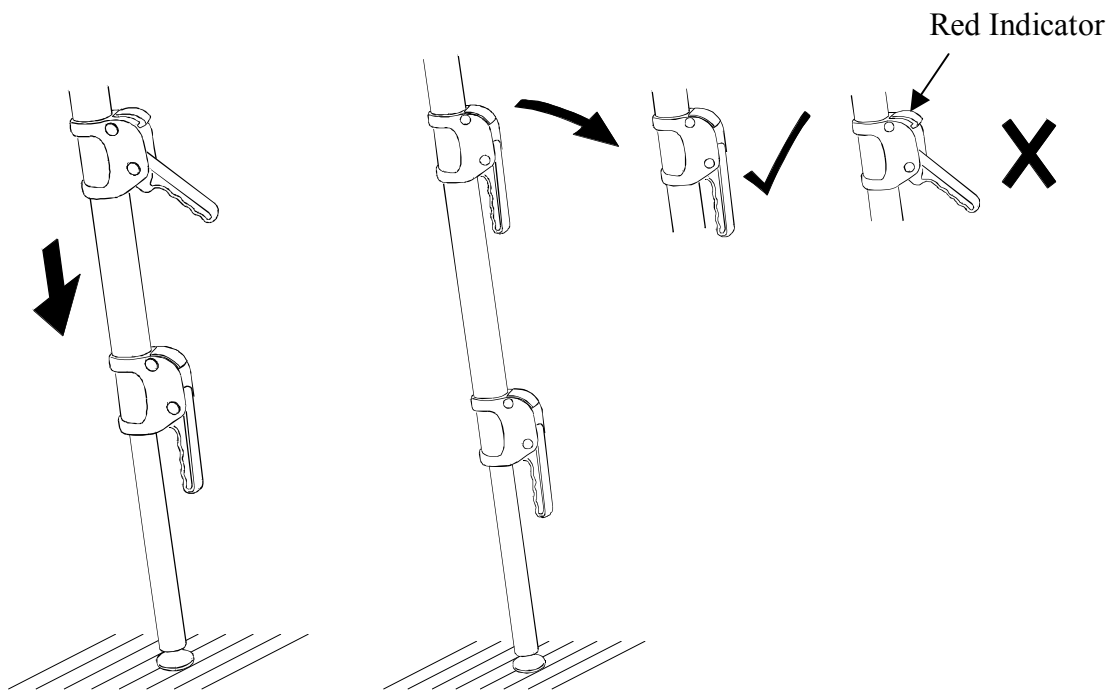

Fig 11
14. This time, firmly gripping the blue upper leg handle tube extend the middle tube to its furthest extent (Fig 11). Make sure the locking catch engages. The locking catch operates in the same way as the lower catch.